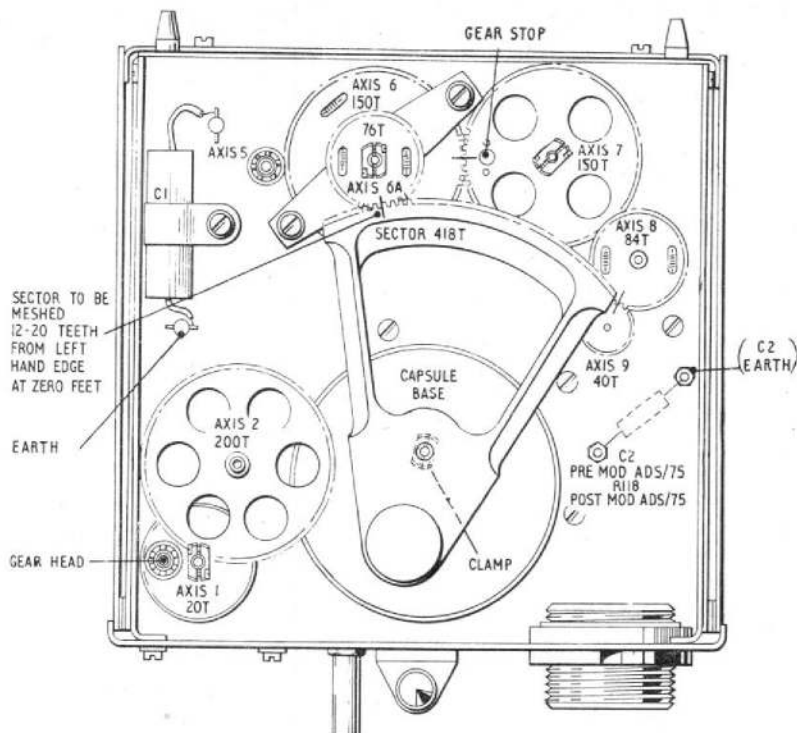
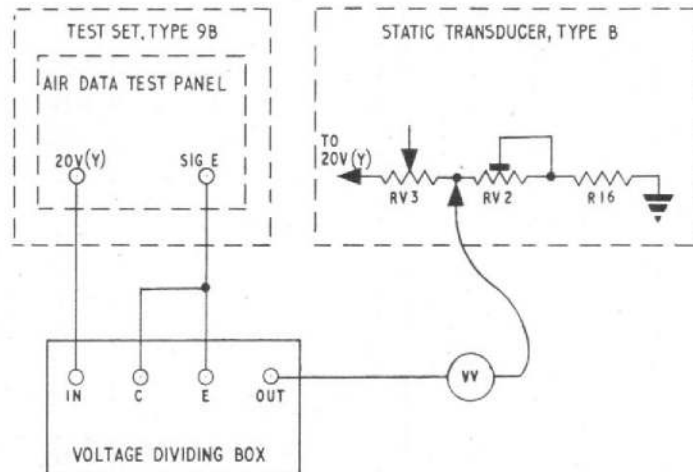

Fig. 1. Static transducer, Type B—underside view
Fig. 2. Test connections for log S calibration—pre-mod. ADS/75
1. The tests detailed in this appendix are additional to the standard serviceability test (Appendix 1) and are necessary either when certain components are replaced (Appendix 4) or during fault diagnosis (Appendix 2). Unless instructed to the contrary, these tests are to be performed with the transducer connected to the test set, Type 9B, and either the pitot/static test set, Mk. 3 or the air data test set, Type B, as shown in Appendix 1, fig. 1, and the cover removed. The procedures detailed in Appendix 1, para. 4-15 must all have been carried out.
C2 (fig. 1). Set the PCU mains switch and switch S1 (test set, Type 9B) to ON. Reduce the range of the valve voltmeter as necessary and check that the null indicated on the meter is not greater than 2mV r.m.s., if necessary adjust RV5 (Chap. 11, fig. 2) to achieve this. If the smallest null obtained is greater than 2mV, carry out the checks of Appendix 2, para. 10. If these are correct, then declare the transducer unserviceable.
10. With switches set as in para. 7 displace the 200T gear of axis 2 (fig. 1) one turn against the servo action and release it; it should make one overshoot in either direction before coming to rest. Repeat displacing the servo in the opposite direction. RV1 should be adjusted, if necessary, to achieve the required conditions.
12. With switches set as in para. 7, displace the 200T gear of axis 2 (fig. 1) one turn against the servo action and release it; it should make one overshoot in either direction before coming to rest. Repeat displacing the servo in the opposite direction. If the required condition is not satisfied, measure the resistance of R7; if out of tolerance, change R7 and retest; if within tolerance, change the motor-tachogenerator and retest.
13. Connect the valve voltmeter set to the 10V range across capacitor C1 with the meter earth terminal connected to the capacitor earth terminal (fig. 1). Set the PCU mains switch and switch S1 (test set, Type 9B) to ON. The voltage as read on the valve voltmeter should not exceed 5V r.m.s.
(1) Ensure that power has been switched on for at least thirty minutes and comply with the conditions of para. 15 (1), (2) (3) and (4).
(2) Screw back the outer ring of screws on the adjustable cam (Chap. 11, fig. 2) until they are all at least  $\frac{1}{16}$  in. clear of the cam track.
(3) Re-set the static pressure to the height at which the largest error occurred during the test of para. 15 and re-adjust synchro CX2 to give the correct reading at this point (Appendix 1, Table 3).
(4) Reduce height in steps of 5000 ft to 0 ft and if required adjust the setting of the inner ring of screws at each point to bring the G1 reading towards the required value. Repeat this process working from the starting point (sub-para. (3)) to 50 000 ft. Do not attempt to correct the readings completely on the first adjustment; adjust each screw not more than one turn before proceeding to the next one.
(5) Continue to adjust the inner ring of screws, working backwards and forwards towards 0 ft in one direction and 50 000 ft in the other, until all G1 readings are about 20 divisions lower than the true readings in Appendix 1, Table 3.
(6) Set the static pressure to 0 ft, then increase height in steps of 5000 ft, screwing down the outer ring of screws at each setting to bring the G1 reading within the tolerances of Appendix 1, Table 3, ensuring that in all cases the outer screws are bearing against the cam. To achieve this the outer ring of screws should not be screwed down more than one turn beyond the point where it touches the cam.
(7) To check the condition of sub-para. (6), set the static pressure to bring the cam follower beneath a particular screw. Upward movement of the screw should cause the G1 pointer to deflect.
(8) Carry out the ranging test of Appendix 1 in respect of the HT 4T synchro. If the G1 readings obtained are not within the tolerances of Appendix 1, Table 3, re-adjust the cam screws where necessary, ensuring that each of the outer screws still bears against the cam.
(9) Repeat sub-para. (8) until all G1 readings are within the permitted tolerances. Replace the transistor amplifier.
(10) If the conditions of sub-para. (9) cannot be obtained then the transducer should be declared unserviceable.
- (2) Release and swing clear the transistor amplifier as described in Appendix 4, without disturbing the cable connections.
- (3) Connect a shorting link between the junction of RV3 and RV4, and the 20V(Y) side of R15.
- (4) Connect up subsidiary test equipment as shown in fig. 2.
- (5) Set the voltage dividing box to a ratio of 0.3307, switch S1 (test set, Type 9B) to ON and adjust RV2 until the valve voltmeter indicates a null.
- (6) Remove the shorting link across R15 and RV4, and disconnect the wander lead.
- (7) Set the controlled static pressure to 1013.2 mb (pitot/static test set, Mk. 3) or zero feet height (ADS test set, Type B).
- (8) Ensure that the cam follower of CU1A mechanism is resting at a point  $\frac{1}{8}$  in. clockwise (when viewed from the top) of the small dip in the cam profile. If the cam follower is incorrectly set refer to para. 24.
- (9) Connect the wander lead of the subsidiary test equipment to the junction of RV3 and RV4 and set the voltage dividing box to 7450. Adjust RV4 until the valve voltmeter indicates a null.
- (10) Disconnect the wander lead from the junction of RV3 and RV4, connect it to T1 INPUT on the ADTP of the test set, Type 9B and set S4 to LOG S.
- (11) Release the three 6BA screws clamping RV3, set the dividing box to 7338 and turn RV3 until the valve voltmeter indicates a null.
- (12) Disconnect the wander lead from T1